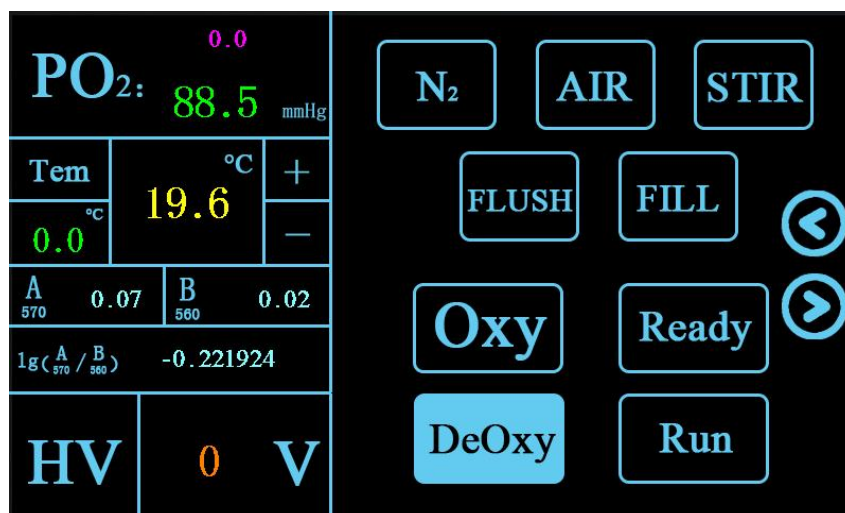

Figure 15. Main control screen
1. Switch on the main power switch at the rear of the instrument. The screen shown in Figure 15 appears.